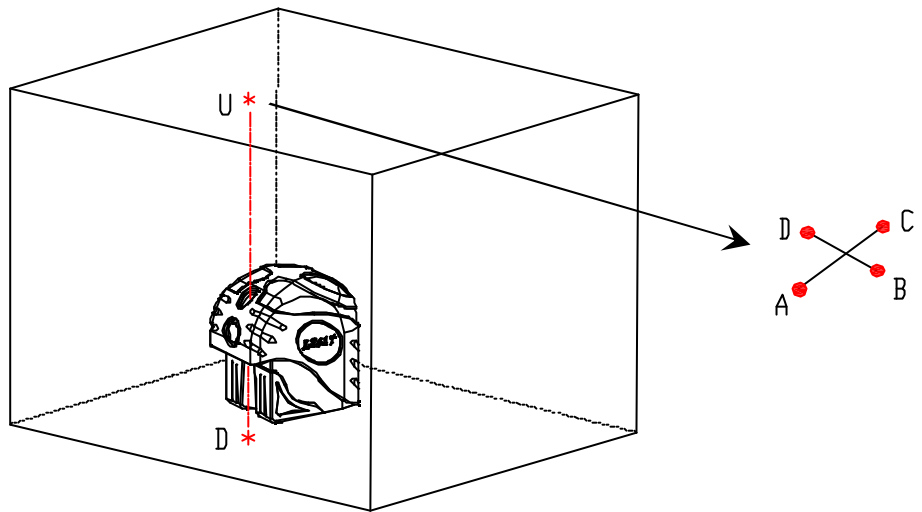

Figure 7
- (1) As shown in the figure 7, put the unit on the ground according to the direction shown in figure 8-1, and mark a point on the ground.
- (2) Power on the unit and make the center of plumb-down point aim at the marked point on the ground. Then take the center of the plumb-up point on the ceiling that is 3m apart from the ground as A.
- (6) As shown in figure 7, the maximum distance among A, B C and D should not be over 2mm. Otherwise, the accuracy of the unit is beyond tolerance and please sent it to the dealer for maintenance.